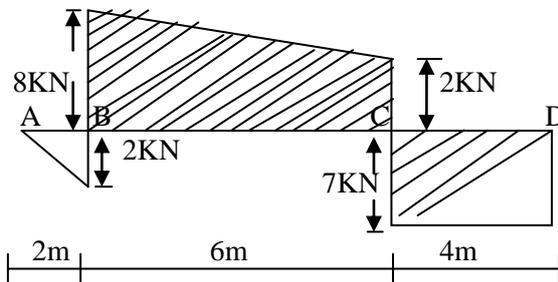

Figure 1
- Q.3 a) Draw the moment and load diagrams for a beam corresponding to the shear diagram shown in figure 1. 12